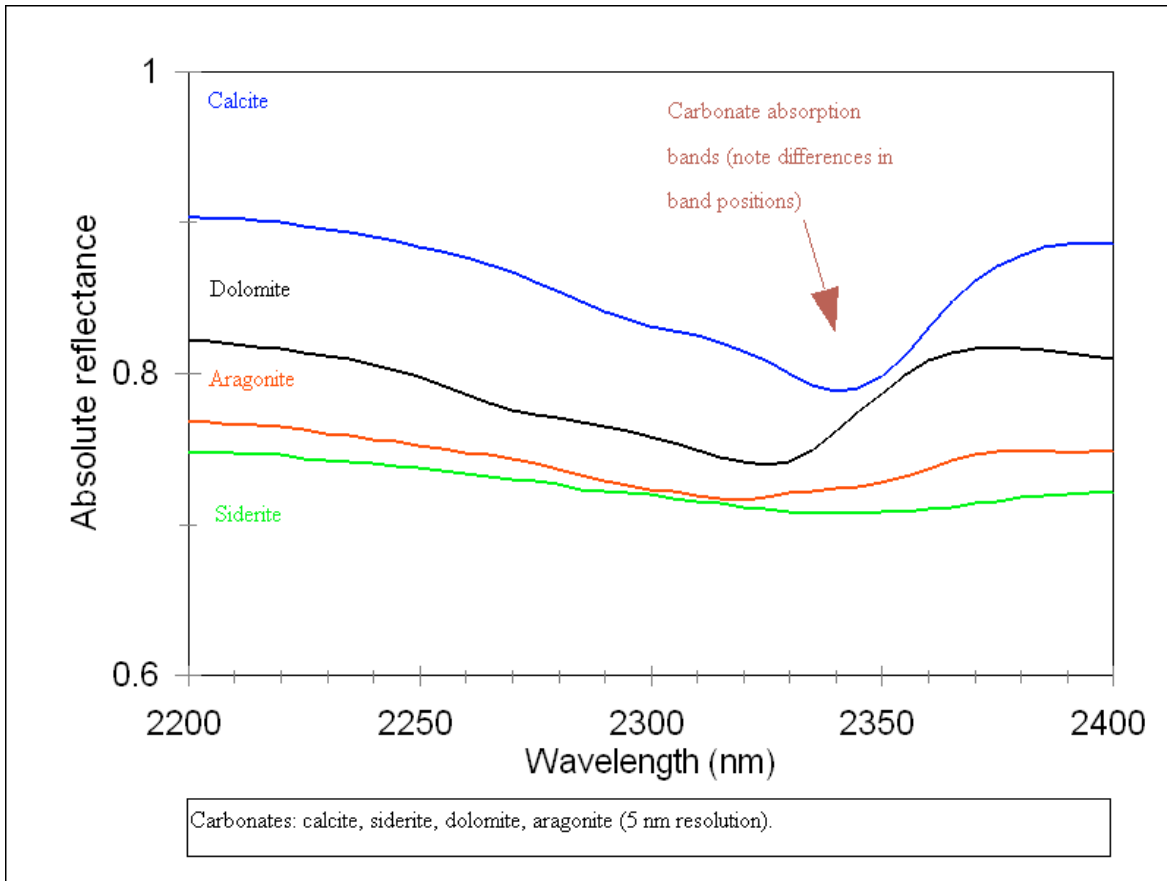

Figure 9: Reflectance spectra of four types of carbonates.
Argus can be utilized to map the spatial variation of greenhouse gases and to identify rocks and minerals with known reflectance spectra. Measurement interpretation requires spacecraft attitude information for an accurate geolocation of the spectrometer surface pixel, application of a radiative transfer retrieval algorithm and knowledge of surface cloud conditions and topography. Utilizing a near nadir-pointing configuration, the spectrometer can record infrared radiation emitted from the Earth's surface and atmosphere to space. By application of optical absorption spectroscopy, absorption and, consequently the column densities of particular atmospheric gas species may be obtained. The simplest methods such as differential optical absorption spectroscopy (DOAS) are similar to computing the intensity ratio between closely spectrally associated absorption and non-absorption features. For mineralogical survey and by application of reflectance spectroscopy, different rock and mineral types may be identified where the atmosphere. Reflectance spectroscopy has found application in space exploration and is used routinely on Earth for detection and characterization of organic molecules in the laboratory. For biological exploration, organic molecules containing aliphatic O-H, C-H, and C-O groups exhibit absorption bands in the 1700 and 2400 nm regions. Detection limits for these types of organic compounds in laboratory equipment are on the order of a few tenths of one percent. Figure 9 shows reflectance spectra for typical rock types. Iron content may be inferred from the strong absorption feature in the lower wavelength region. The absorption of infrared radiation by carbonates has a distinct signature that varies with rock type, enabling classification. The extended range Argus 1000EK-04 is recommended for reflectance spectroscopy applications in the 1800 nm - 2400 nm band.
Oxygen can also be observed; however, a shorter integration time is required than for carbon-dioxide observation. Carbon Monoxide (CO) and Hydrogen Fluoride (HF) is not detected in spectra because of feature contamination by other absorbing gases (water vapor). There is some evidence of methane (CH₄) absorption at 1.63 μm ; however it is contaminated with carbon-dioxide features. The extended range detector is recommended for the observation of methane (CH₄) features at 2.25 μm . The integrated intensity is highly correlated with surface albedo. Spectra contaminated by cloud cover show typically reduced gas absorption, a blackbody-like response and increased intensity. Results of spectra acquired over Canada in 2008 are shown in Figure 9. We estimate that the peak radiance observed in this scene is equivalent to 0.04 $\text{Wm}^2 \text{sr}^{-1} \text{nm}^{-1}$.